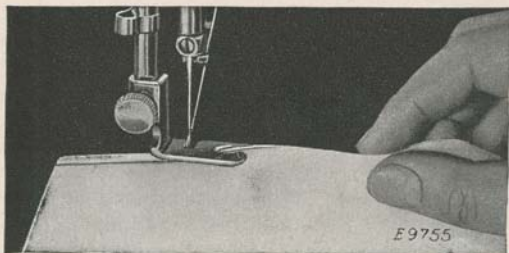

FIG. 34. STARTING A HEM AT THE EDGE
3. Draw the material toward you through the Hemmer, as shown in Fig. 34, at the same time making the second fold at the very edge. Continue to draw the material through the Hemmer until the edge is just under the needle. Place the upper and lower threads together under the Hemmer foot and assist in starting of the hem by slightly pulling the threads from the back as the machine is run.